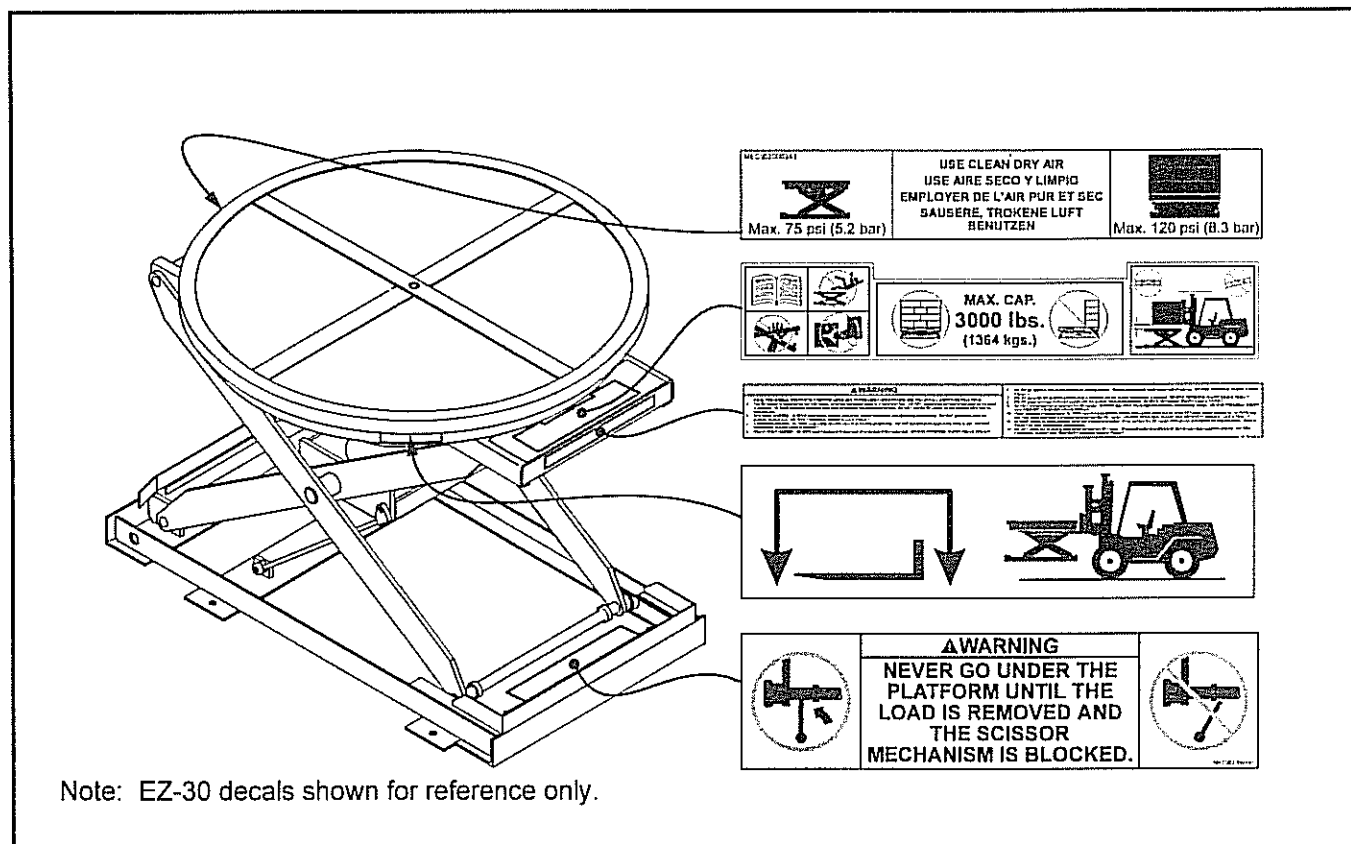

Figure 1 Safety Warning Label Locations
11. **ALWAYS** ensure all safety warning labels are in place and legible. If not, remove the EZ Loader from service and replace the required labels. Refer to Figure 1 for label descriptions and locations.